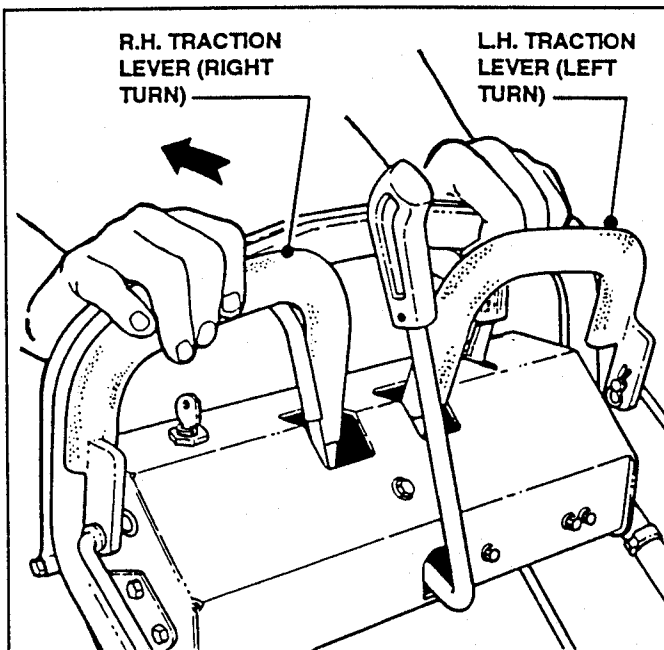
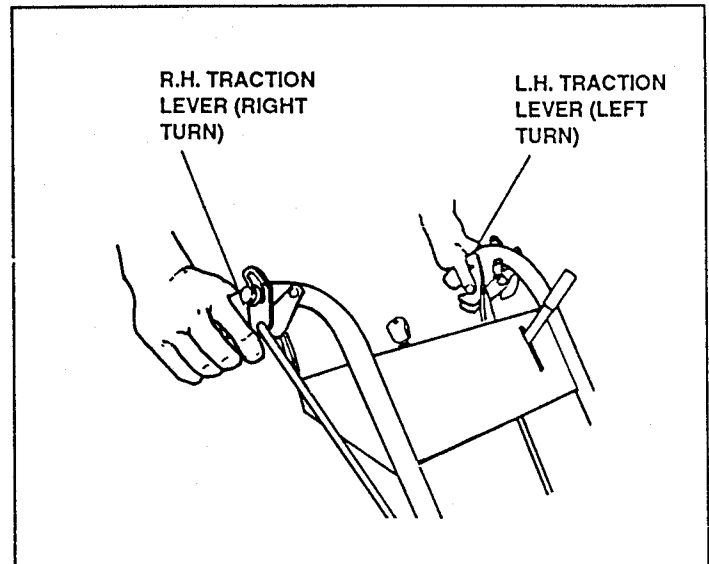

FIGURE 12
FIGURE 13
12. The mower is **TURNE**d by declutching wheel drive belts while engaging wheel brakes - turn left by squeezing the Left Hand Traction Lever or turn right by squeezing the Right Hand Traction Lever. See Figure 12 Looped Handle, or Figure 13 Pistol Grip. The more pressure applied while squeezing the Traction Lever, the sharper the Mower will turn.